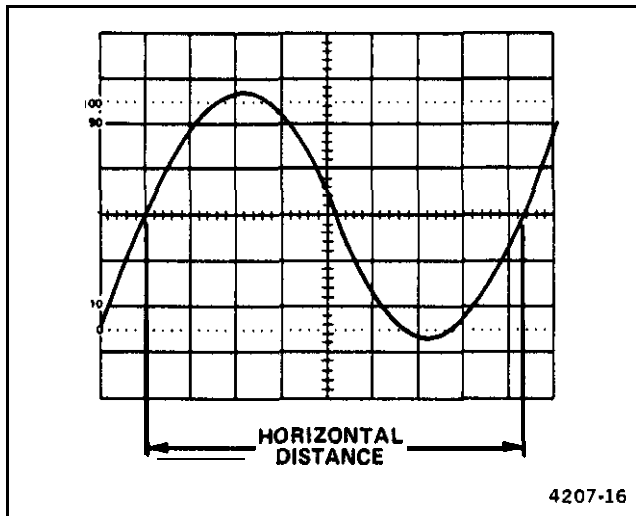

Figure 4-6. Time duration.
5. Position the display to place the time-measurement points on the center horizontal graticule line (see Figure 4-6).
EXAMPLE: The distance between the time measurement points is 6.3 divisions (see Figure 4-6), and the A SEC/DIV switch is set to 2 ms. The X10 Magnifier switch is pushed in (1X magnification).
EXAMPLE: The signal in Figure 4-6 has a time duration of 16.6 ms.